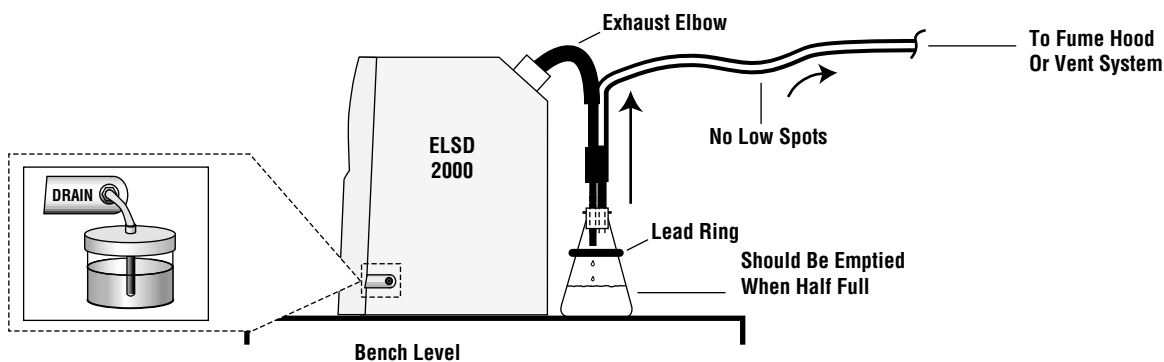

Figure 2.5
6. Exhaust Connection: Connect the exhaust elbow provided to the EXHAUST outlet on the rear panel of the unit. Extend the exhaust tubing from the elbow to the condensation trap. The tubing should permit continuous downward flow of any condensate into the collection flask. The lead ring can be placed on the collection flask for stability. Connect the additional piece of exhaust tubing to the condensation trap and direct to a fume hood or other ventilation system. There should be no low spots in the tubing where condensate can collect. If necessary, the exhaust tubing can be shortened by cutting with a razor to the desired length. See Figure 2.5 below.